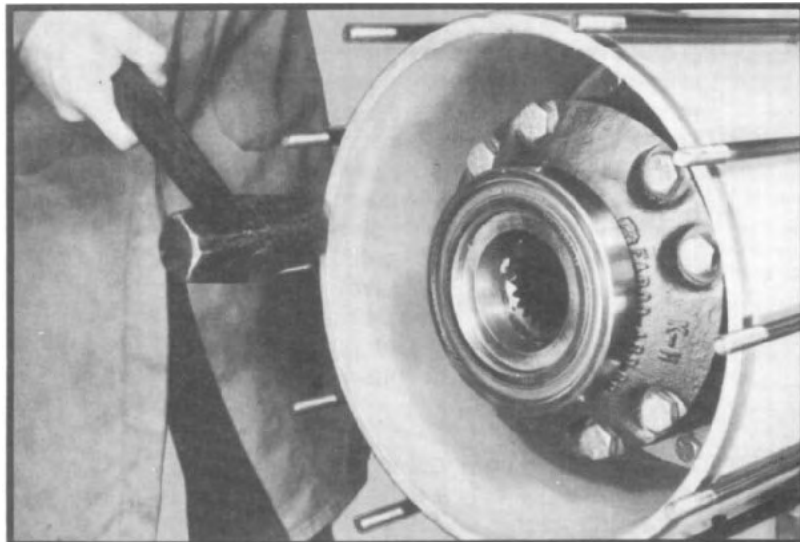

Fig. 133
- 2.26 Tap differential housing into rear face plate and against o-ring. (See fig. 133.)